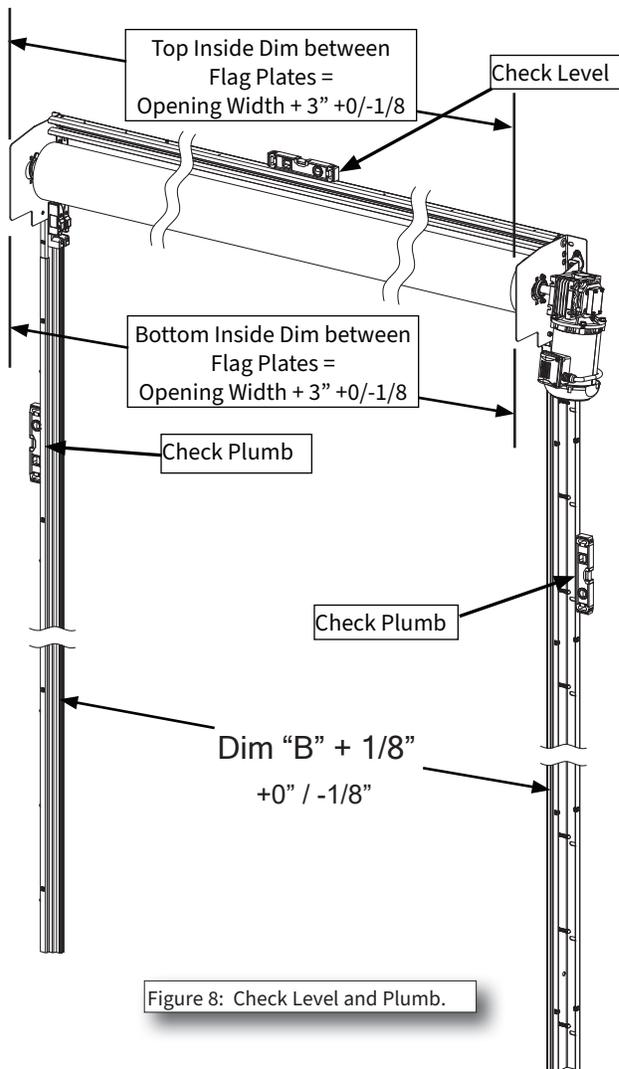

Figure 8: Check Level and Plumb.
2. Place the entire structure centered around the construction opening (Figure 8).